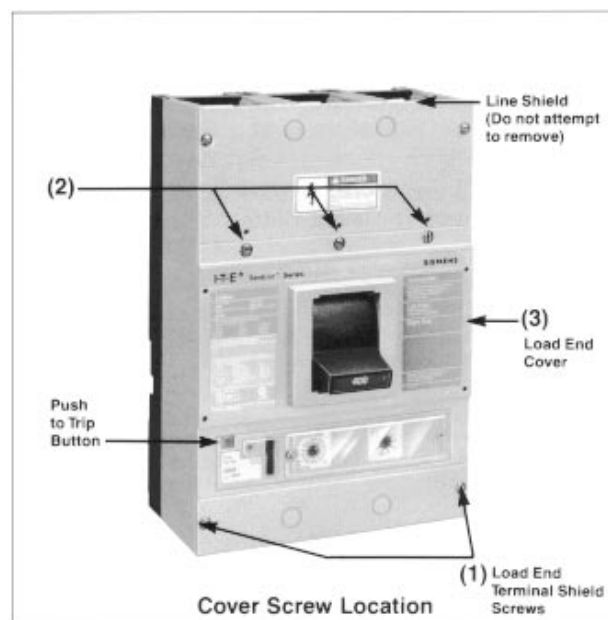

Figure 1
- Depress trip button (Figure 1) to trip circuit breaker prior to removing cover. Before attaching accessory unit, circuit breaker must be in tripped position.
- Remove two terminal shield screws on load end cover (1), load end cover screws (5 or 9) (2) and, if breaker is mounted, also remove mounting screws (not shown). Remove load end cover only (3). Accessory units can be mounted in right pole only of the circuit breaker.